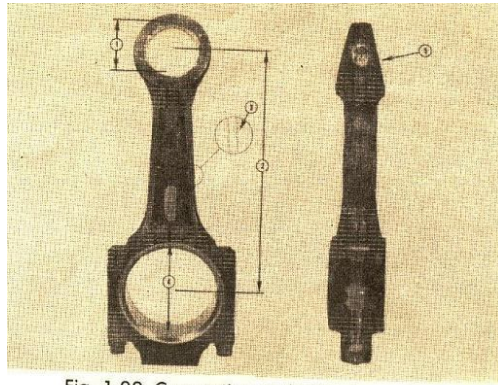

Fig. 1-22. Connecting rod critical areas
- ii. Check the rods for cracks with 300 to 3400 ampere-turns with the AC equipment or 2600 to 2800 ampere-turns with DC or rectified AC equipment in a coil. Give special attention to the shaded critical areas shown in Fig. 1-22.
- Remove damage areas in the rod which are less than 1/16" (1.59 mm) deep by grinding or filling with a half-round file. The radius must be 1/2" (12.7 mm) or more. Blend radius at the ends of the cut. Discard the rod if the damage is deeper than 1/16" (1.59 mm) (Fig. 1-22).